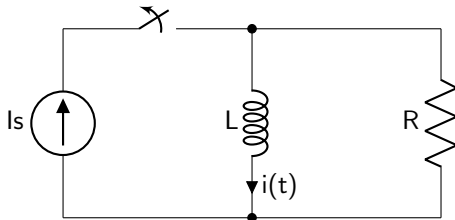

Figure 9.6: Lab 9 homework circuit diagram.
4. Use your measurements of inductance and parasitic resistance in Circuits 1 and 4 to answer the following questions based on figure 9.6.
- (b) Let’s say you need to modify the circuit in figure 9.6 so that its time constant is as close to ideal as possible. You cannot change the solenoid, and you cannot change the resistor R that’s in parallel with it. What modification(s) can you make to the circuit that reduce(s) the effect of the parasitic resistance to get the time constant as close to ideal as possible?